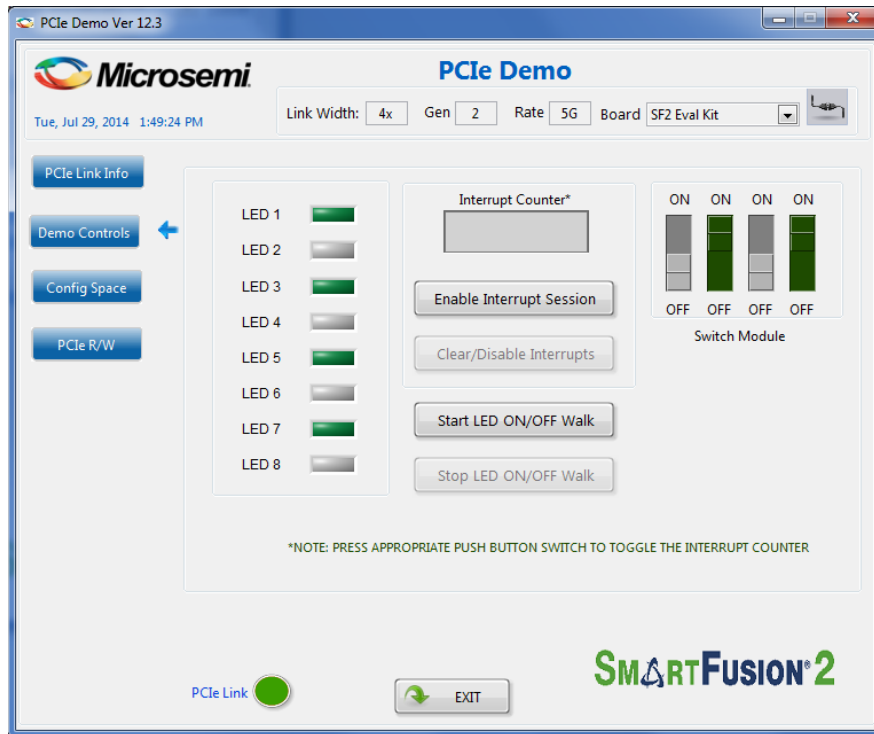

Figure 63 Demo Controls
- Click **Demo Controls**. Figure 63 shows the LED options and DIP switch status.